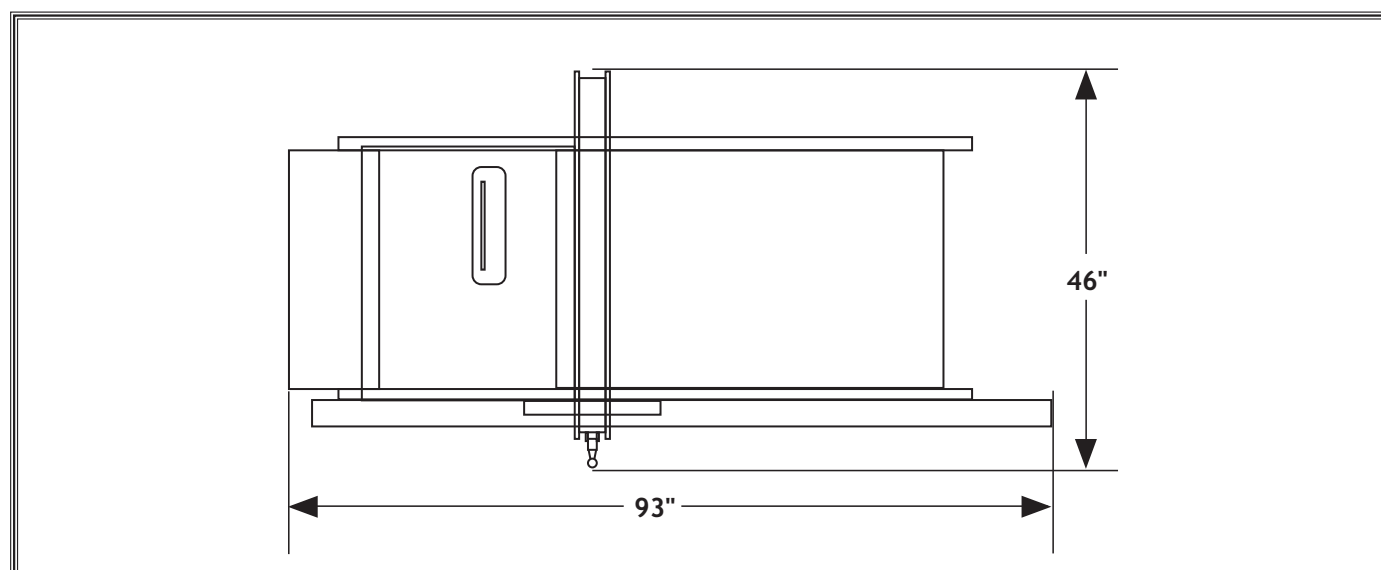

Figure 1. Minimum working clearances.
- **Working Clearances:** Consider existing and anticipated needs, size of material to be processed through the machine, and space for auxiliary stands, work tables or other machinery when establishing a location for your table saw (see **Figure 1** for minimum working clearances).